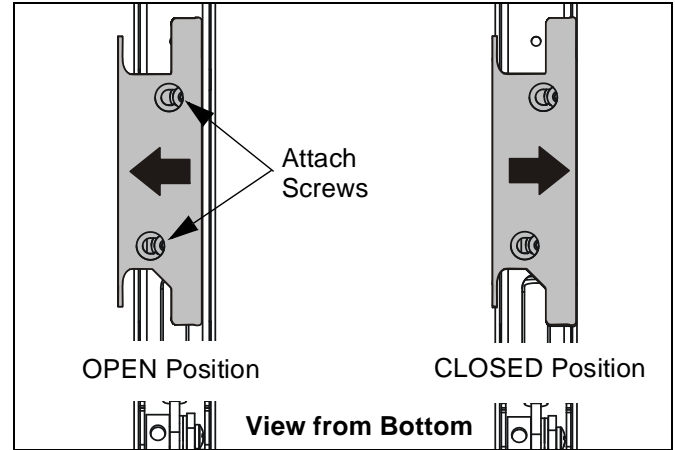

Figure 6
2. Open the cable management bracket by sliding it towards the edge of the arm (See Figure 6).
4. Close cable management bracket by sliding it back towards the centerline of the arm (See Figure 6).